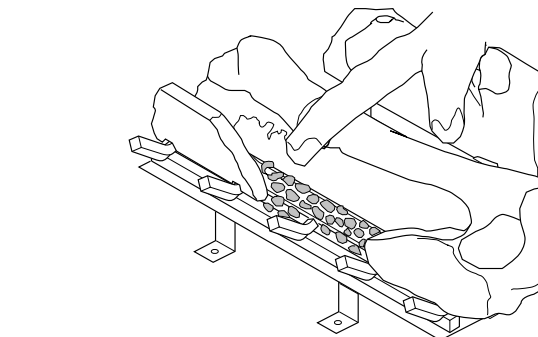

Figure 59 - Placing Ember Material on Burner
6. Pull ember material apart into pieces no larger than a dime. Place these pieces loosely and sparingly directly onto the exposed section of the front burner and along the space between the burner and grate prongs (see Figure 59). This will create the glowing ember appearance as the flame touches the ember material. Do not block air slots by using too much ember material in one area. It is not necessary to use all of the ember material provided.